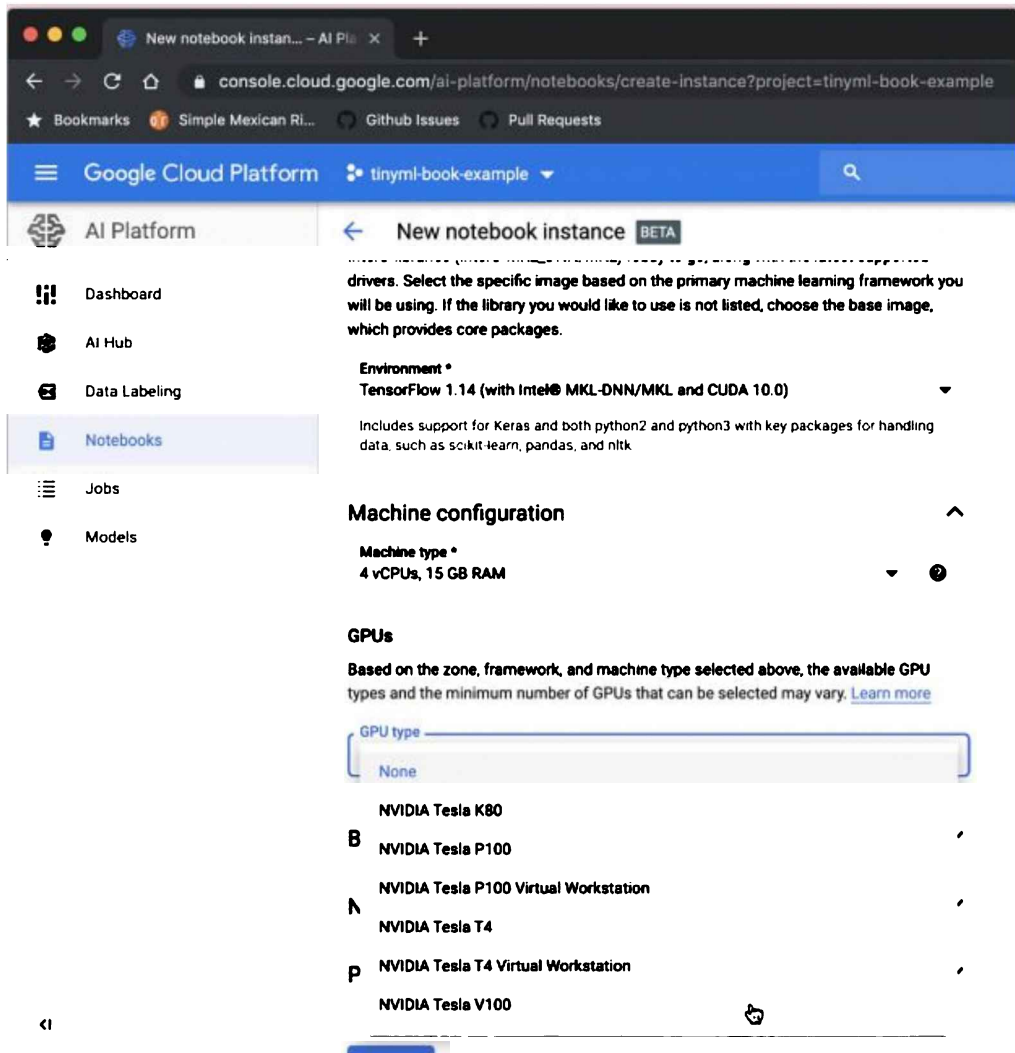

Figure 10-6. The GPU selection interface
9. Picking the right GPU will make the biggest difference in your training speed. It can be tricky because not all zones offer the same kind of hardware. In our case, we’re using “us-west1 (Oregon)” as the region and “us-west-1b” as the zone because we know that they currently offer high-end GPUs. You can get the detailed pricing information using Google Cloud Platform’s pricing calculator, but for this example we’re choosing one NVIDIA Tesla V100 GPU, as illustrated in Figure 10-6. This costs \$1,300 a month to run but allows us to train the person-detector model in around a day, so the model training cost works out to about \$45.